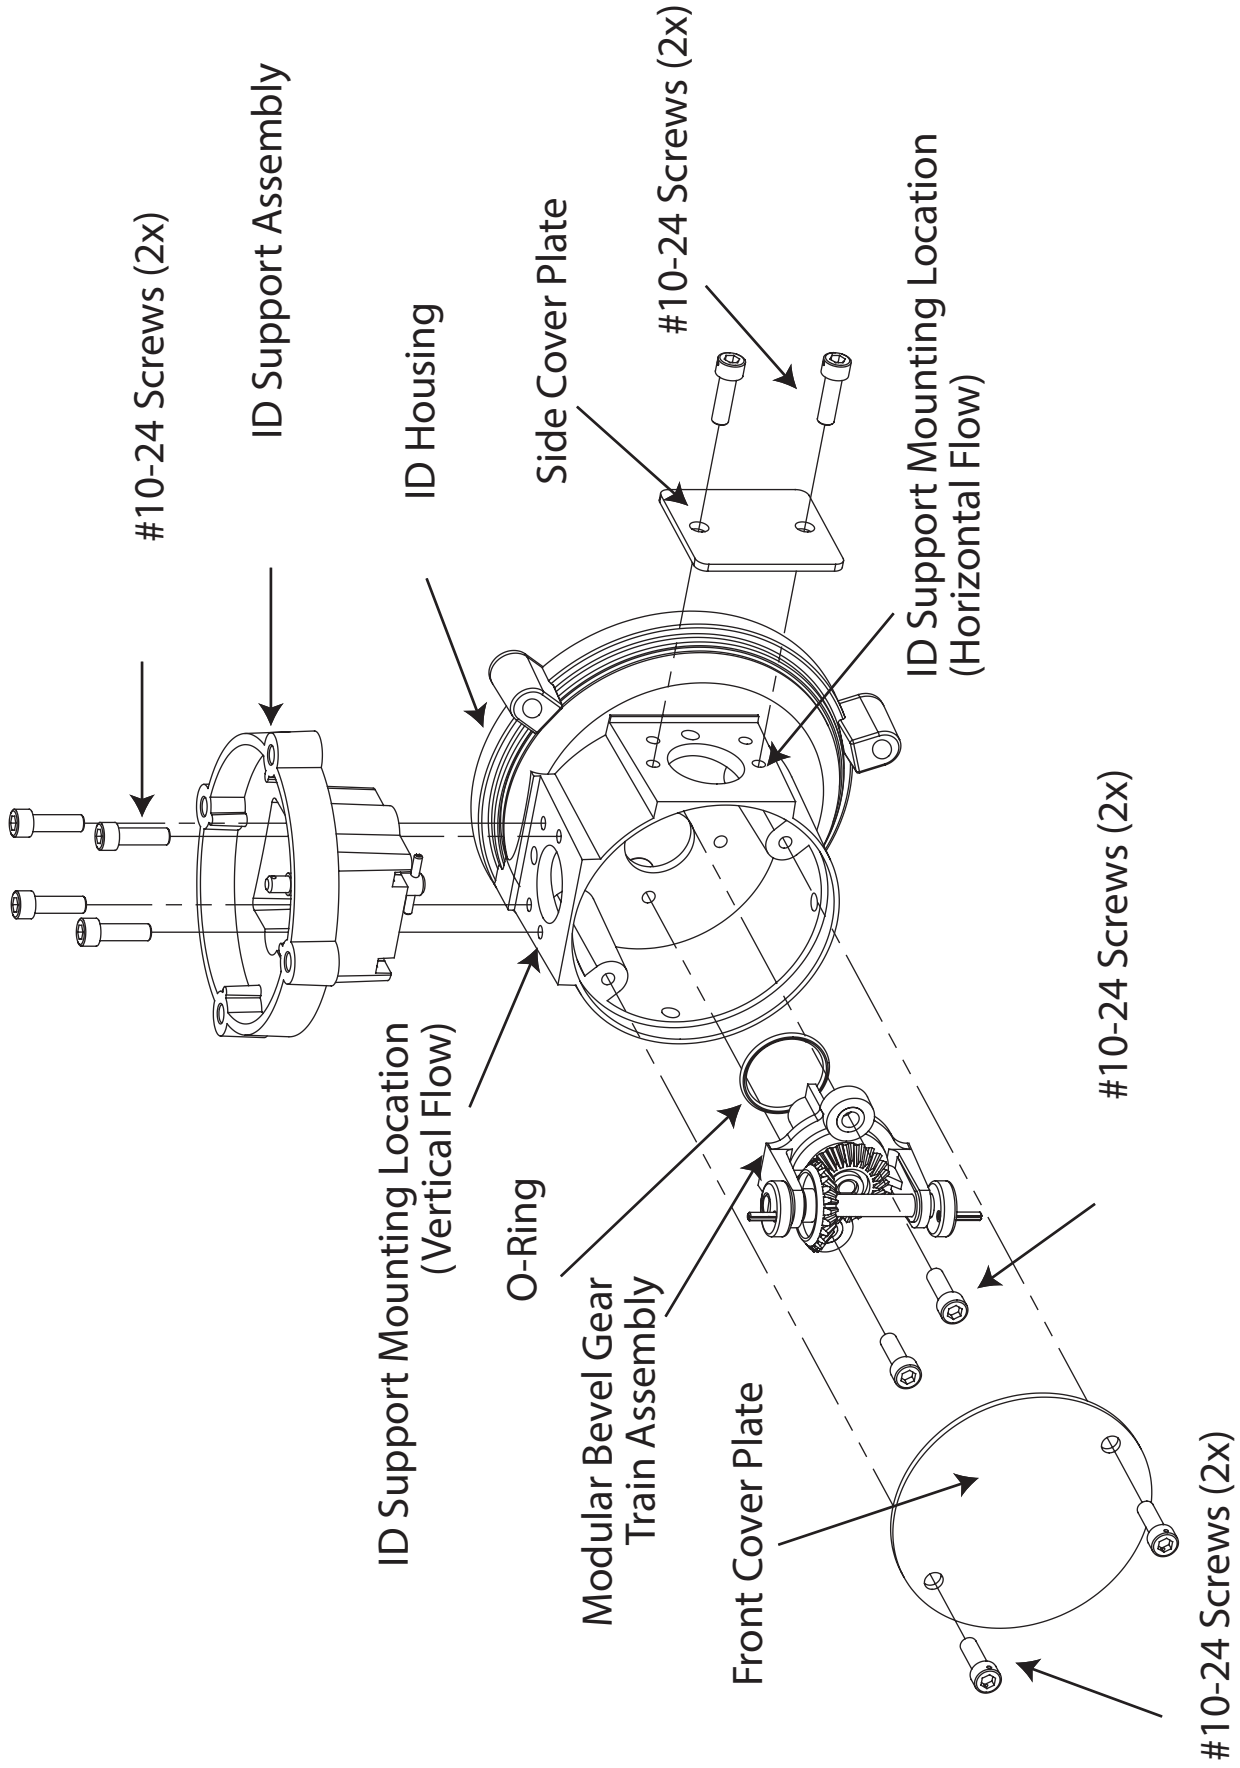

Figure 19 - Exploded View of Instrument Drive (ID) Assembly
The following procedures are required to change the position of the instrument drive assembly and drive dog rotation direction. Refer to Figures 19, 20 and 21 for component locations.
1. Using a 5/32" Allen wrench, remove the two #10-24 screws that hold the Front Cover Plate onto the ID housing. Remove the cover plate. Refer to Figure 19 for component identification.